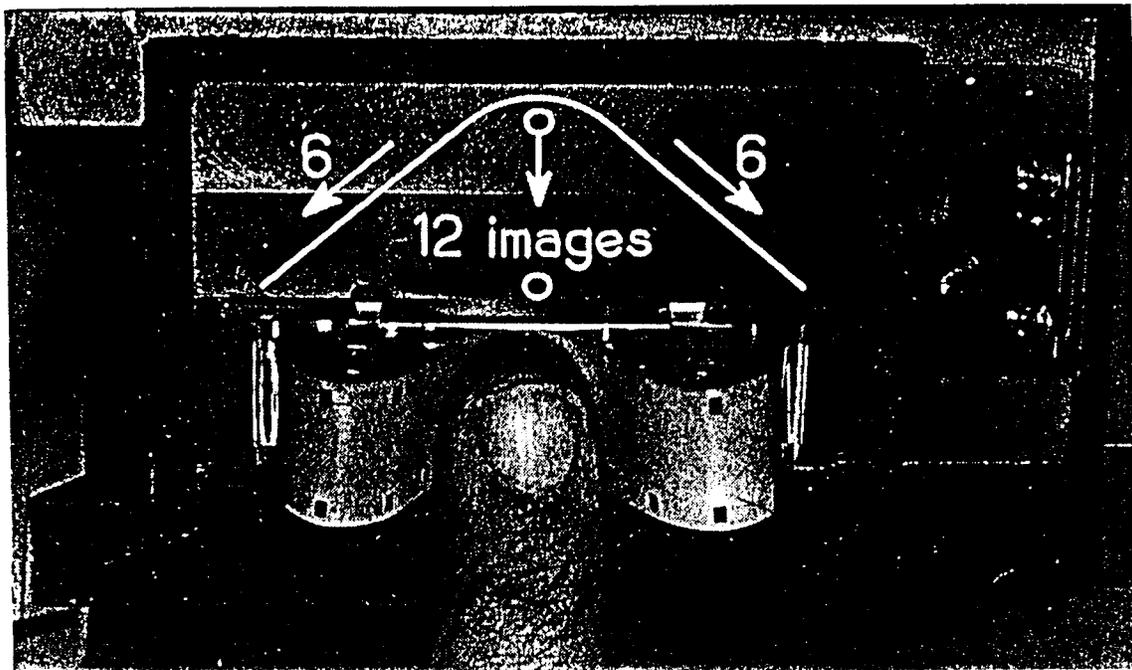

Fig. 13-14. Eclair NPR—dividing the loop. Courtesy of Eclair International Diffusion.
1. Pull film from the face of the magazine and set the loops (see Sec. 13.8f and Fig. 13-14).
15. *To set loops* (Fig. 13-14): Press the forefinger into the center of the 12-13-frame arc to form two equal halves which, when pushed back into the magazine, will form the upper and lower internal loops. (There should be six frames for the top loop, six to seven frames for the bottom loop.)